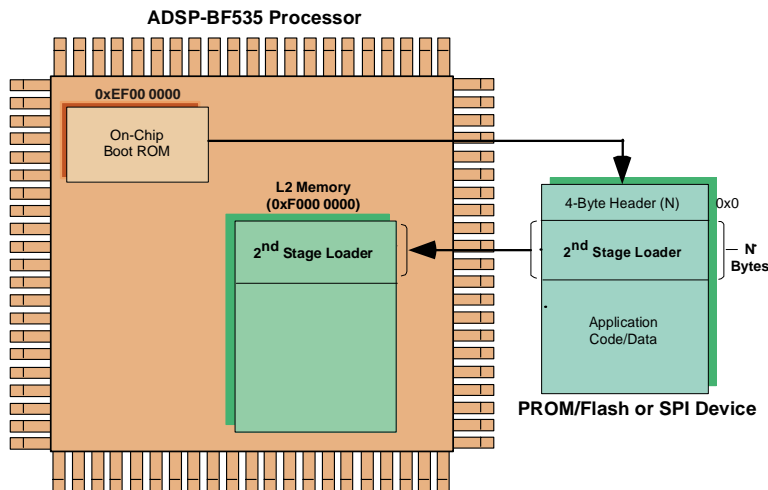

Figure 2-4. ADSP-BF535 Processors: Booting With Second-Stage Loader
1. Upon RESET, the on-chip boot ROM downloads N bytes (the second-stage loader) from external memory to address 0xF000 0000 in L2 memory (Figure 2-4).